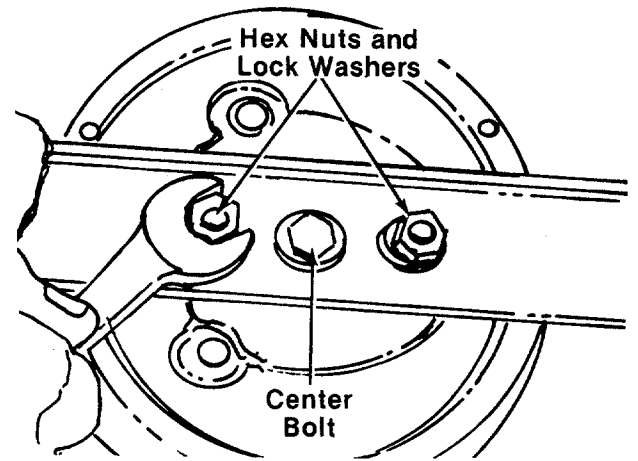

FIGURE 23.
To remove the cutting blade for sharpening or replacement, remove the two hex nuts and lock washers which hold the blade to the blade brake/clutch. Protect hands by using heavy gloves or a rag to grasp the cutting blade. See figure 23.
9. Tip the mower on its side. Remove the blade by removing two hex nuts and lock washers. Refer to figure 23.